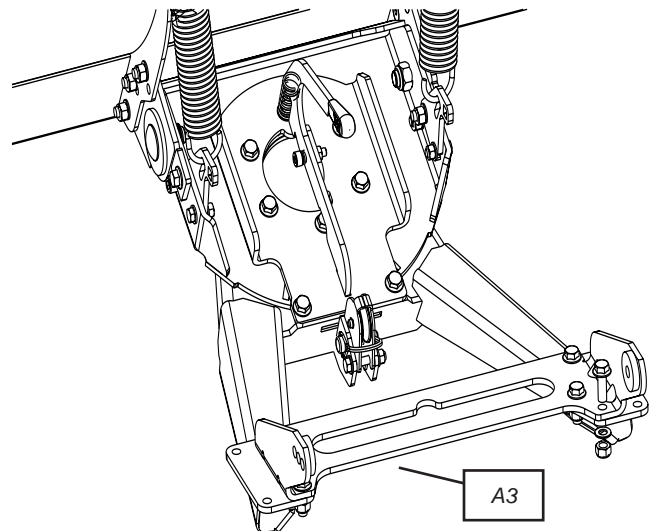

Figure 11 Install Plow Mount Flange
14. See Warn plow push tube instruction manual for installing plow mount flange (A3). See Figure 11.